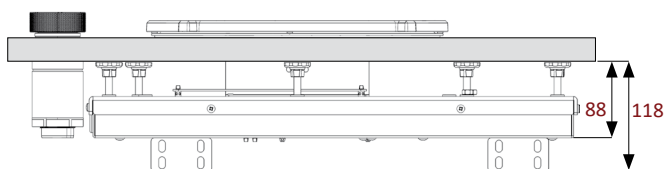

fig. 3
- Keep in mind that the total thickness of the induction appliance and support set is 118 mm (Top Side and Front Side) measured from the top of the worktop (fig. 3). This is important for constructing the kitchen.
- To prevent bending of the worktop, the induction appliance needs to be supported with the PITT Cooking support bar set (fig. 3 and 4).